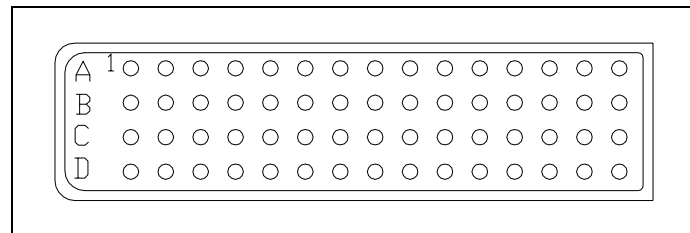

Figure 22: 60 pin Bendix connector.
Step 2 – Orient the connector as shown in *Figure 22*.